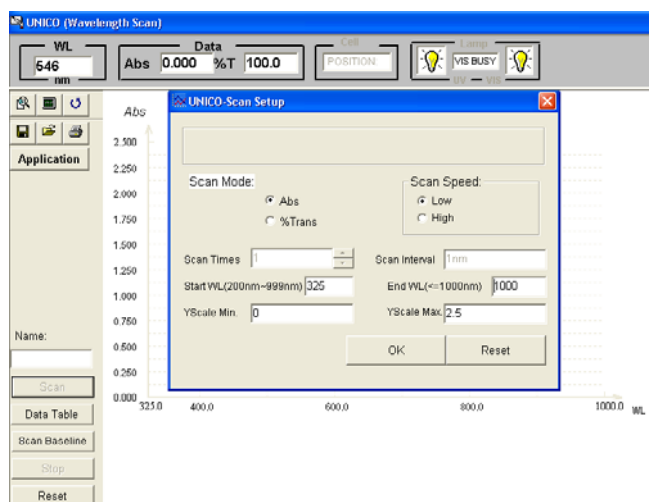
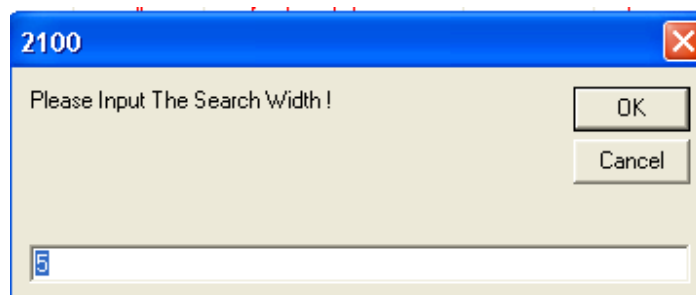

Figure-31 Main Screen of **Scanning**
Figure-34 Peak and Valley Search within Certain Wavelength Range
At the **Main Screen**, click **Application**, check **Sample Scan**, and click **OK** button to enter the **Main Screen of Scanning** with a pop up window for **Scan Setup** (Figure-31 and Figure-34).
- **Peak/Valley** : to label peaks and valleys of the graph for presentation and notes. **Operation:** To **place** the **Peak Label**, click the button, move the mouse to the top of the peak and left click the mouse. It will display the absorbance and wavelength. To **remove** the Peak label, left click the mouse on the displayed absorbance and wavelength. To **place and remove** the **Valley label**, repeat the operation above with **right click the mouse**. You can also input a number to get the peak and valley value for certain range of the wavelength. For example, type 5 (it is actually 5 nm) (Figure-34), click **OK**, move mouse to the curve at 500 nm, you will get the Peak and Valley value from 495 nm to 505 nm.